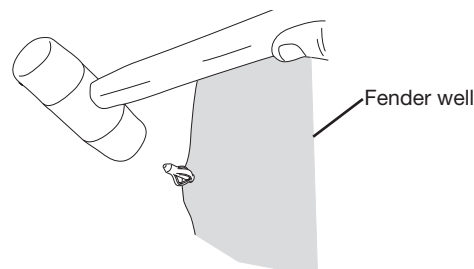

Fig. 21
4. From the opposite side, use a rubber mallet and carefully tap the rivet posts back into the rivets in order to secure them properly (Fig. 21). Repeat this process for all remaining rivets.